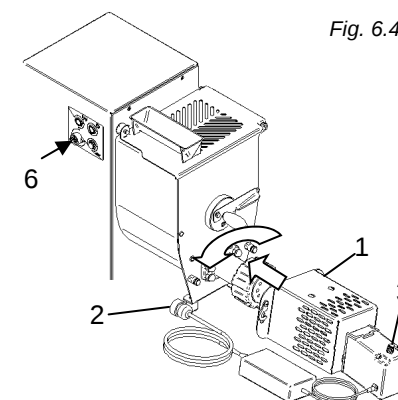

Fig. 6.4.1
1. Attach the pasta cutter accessory "1" (Fig. 6.4.1) to the front pins of the pasta machine.
2. Insert connector "2" (Fig. 6.4.1) into connector "6" (Fig. 3.1.1).
4. Intervene on potentiometer "3" (Fig. 6.4.1) to adjust the speed of the pasta cutter to cut the pasta to the desired length.